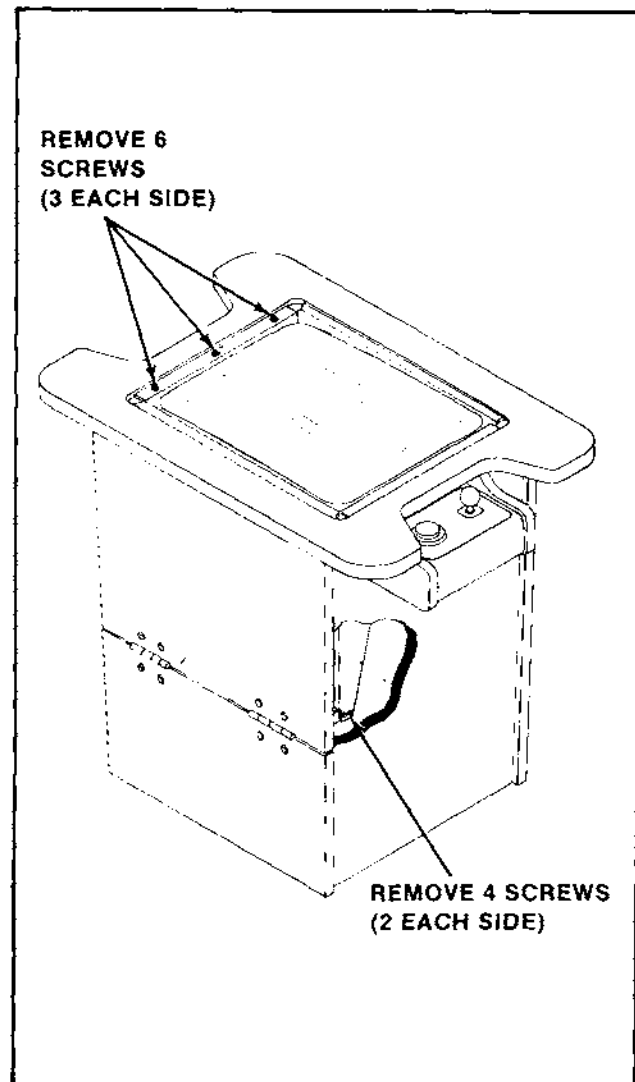

Figure 4-11 Removing Monitor — Cocktail
3. COCKTAIL TABLE MODEL: See Figure 4-11.
- Remove the screws holding the T.V. monitor chassis to the "L" brackets by the door hinge(s). See Figure 4-11.
- Remove the screws which secure the T.V. monitor mounting brackets to the edges of the slot cut in the table top. See Figure 4-11.